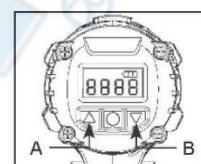

Fig. 11
3. Press the speed "▲" button (A), the speed will increase, press the speed "▼" Button (B), the speed is reduced, positive and negative / high and low speed independent adjustment, The speed adjustment is 100 RPM, and the speed adjustment of the low speed is once by 25 RPM. (Fig. 11)